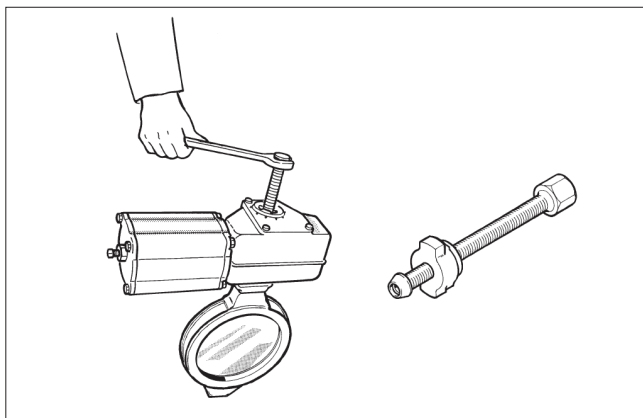

Fig. 18 Actuator removal, B1 series
- Detach the actuator using a suitable extractor. The correct tool can be ordered from the manufacturer (see Fig. 18).